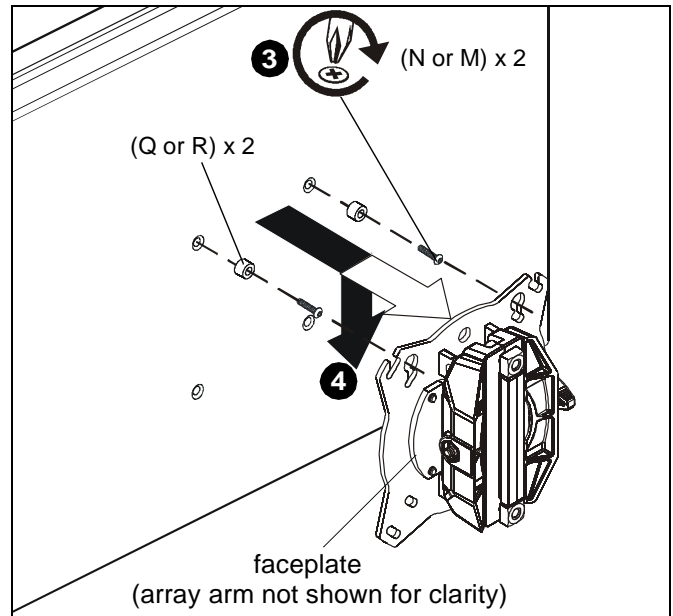

Figure 12
3. Using Phillips screwdriver, carefully install two selected screws (N or M) through selected spacers (Q or R) into the upper mounting holes on the display. Thread screws completely into display, then back out 3 complete turns. (See Figure 12)
4. Pick up and align display so that screws (N or M) (installed on the back of the display in the previous step) fit into the mounting holes on the faceplate. Lower the display firmly into place. (See Figure 12)